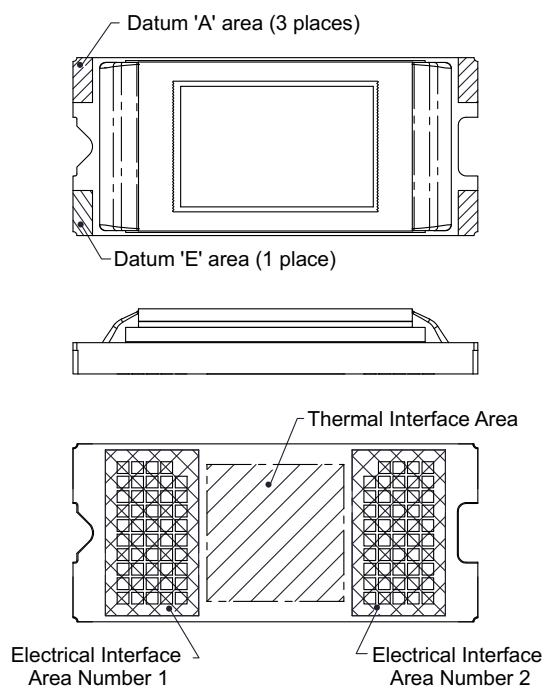

Figure 7-3. System Interface Loads for FQD
(1) See and Figure 7-3 for diagrams.
(2) See Mounting Concepts DLP4500FQD.